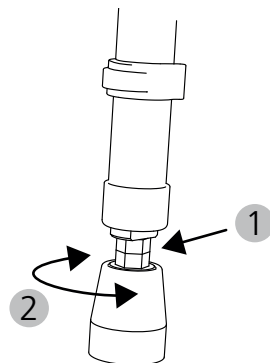

Abb. 4
1. First release the lock nuts (Fig. 4, 1).
2. Then establish the desired position by unscrewing or screwing in the adjusting screw (Fig. 4, 2).
3. Retighten the lock nut (Fig. 4, 1).